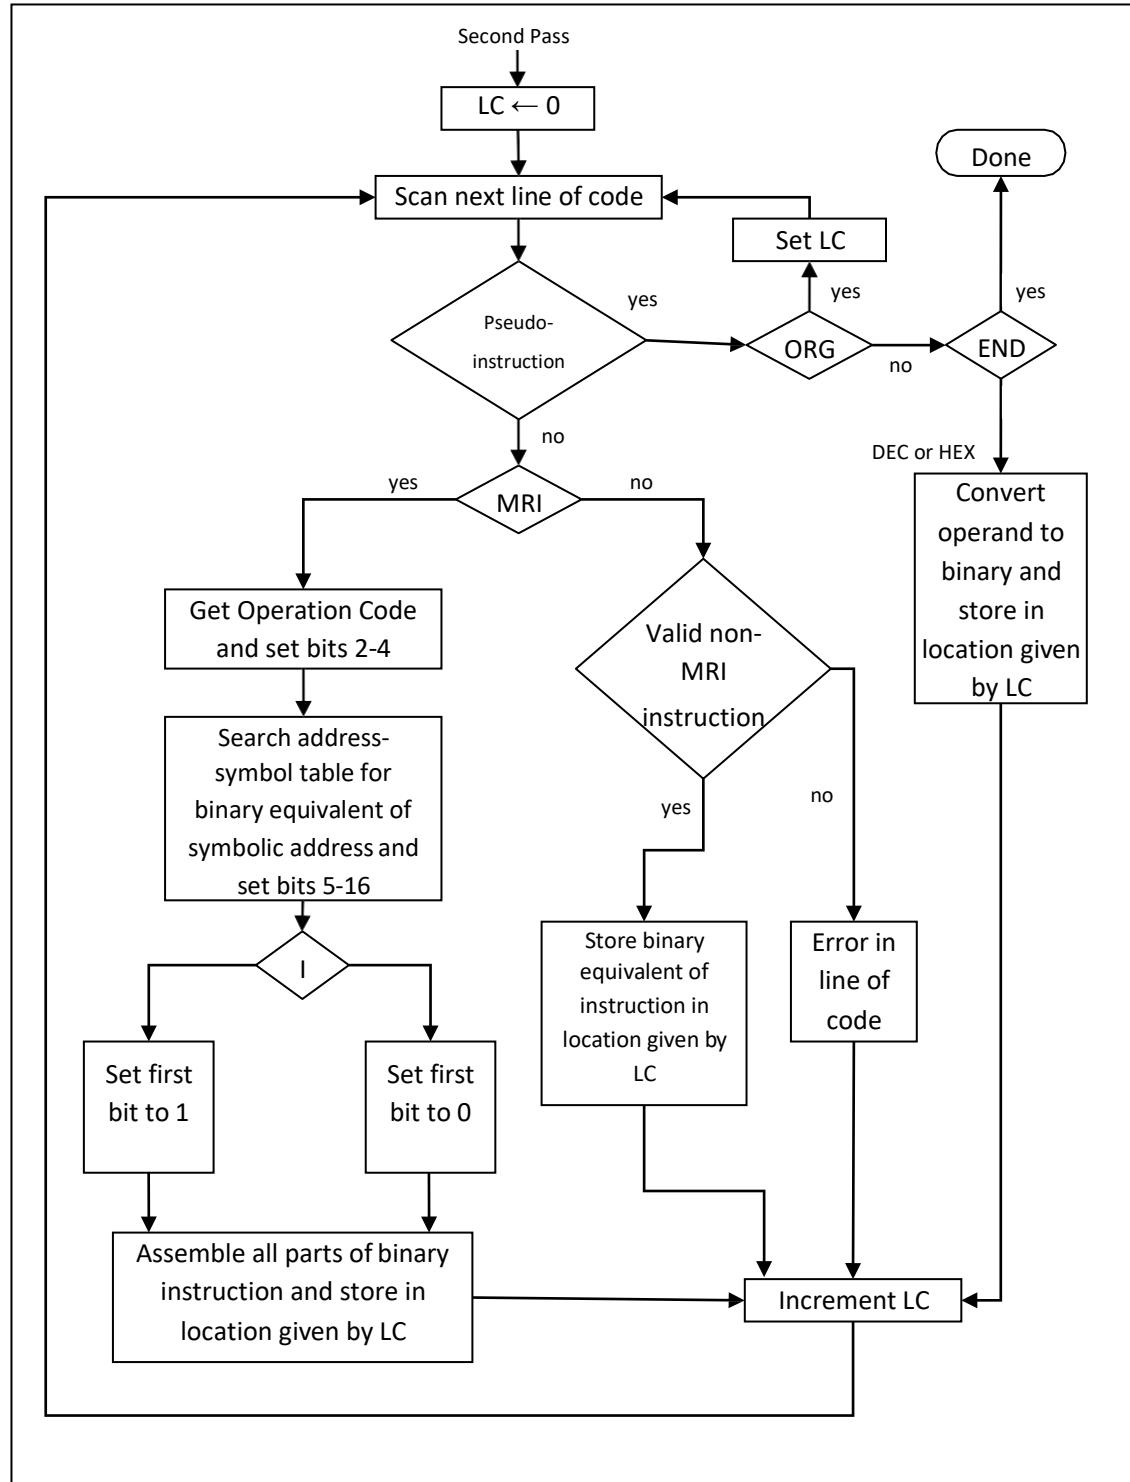

Figure 3.2: Flowchart for second pass of assembler
- The tasks performed by the assembler during the second pass are described in the flowchart of Figure 3.2.